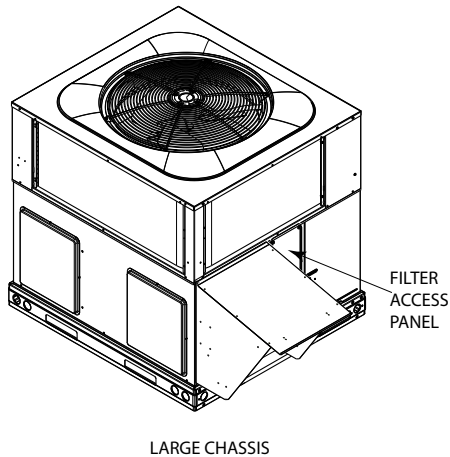

Fig. 9 – Large Chassis Filter Access
**Large Chassis (See Fig. 9)**